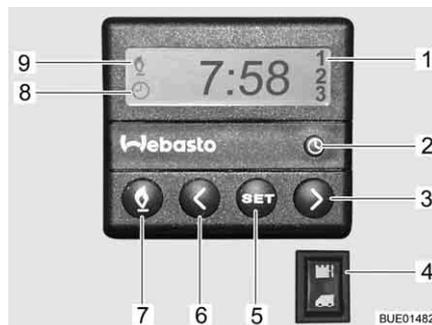

Fig. 213 Operating unit for independent vehicle heater
- Press the button (Fig. 213,7). The heating mode is displayed by the symbol (Fig. 213,9). The fan will only be switched on when there is a coolant temperature of 30 °C.
- Press the button (Fig. 213,7). The symbol (Fig. 213,9) goes off.
- Press the lower part of the switch (Fig. 213,4). Engine is preheated. The fan is switched on immediately.
- Press the upper part of the switch (Fig. 213,4). Engine stays cold.
- Press the button (Fig. 213,2). The time setting is displayed by the symbol (Fig. 213,8).
- Set the time with the buttons (Fig. 213,3 and 6).
- Press the button (Fig. 213,5).
- Set the switching on time within ten seconds, with the buttons (Fig. 213,3 and 6).
- Keep pressing the button (Fig. 213,5) until the selected programme number (Fig. 213,1) appears in the display.